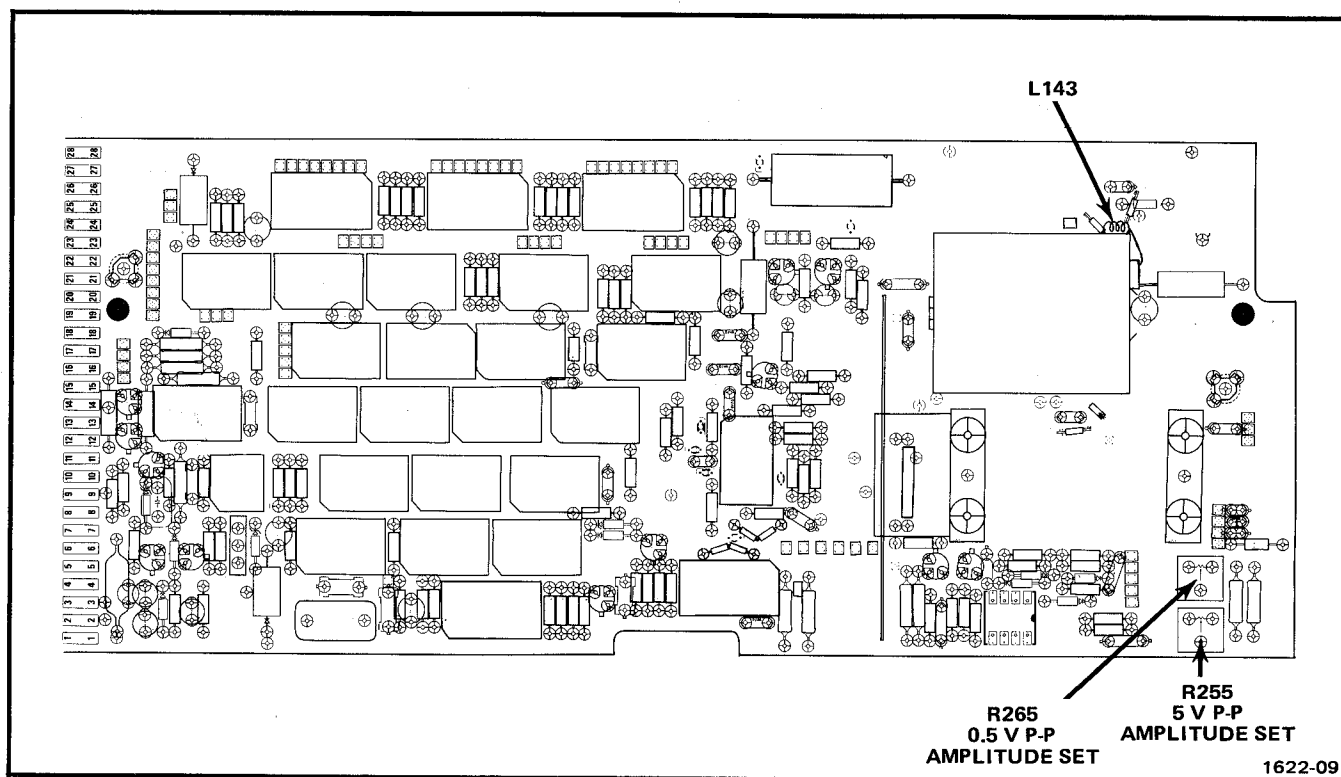
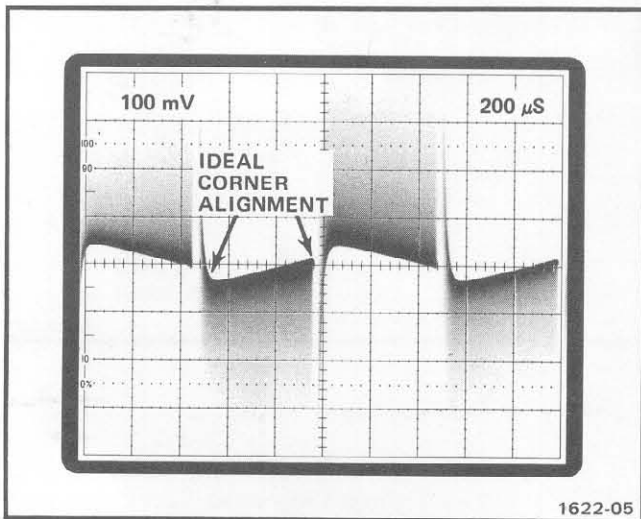

Fig. 3-2. Location of L143, 0.5 V P-P, and 5 V P-P Amplitude Set.
Fig. 3-3. Display of complex waveform (idealized) obtained when the amplitude set controls are properly adjusted at 0.05 MHz.
d. Set the time-base triggering controls for a stable display; a crt display similar to Fig. 3-3 is obtained.
e. Check—that the corners of the idealized waveform are aligned as illustrated in Fig. 3-3. Disregard waveform tilt.
f. Adjust—5.0 P-P Amplitude Set, R255, so the corners of the idealized waveform are aligned as illustrated in Fig. 3-3. See Fig. 3-2 for adjustment location.
i. Check—that the waveform is similar as illustrated in Fig. 3-3.
j. Adjust—0.5 V P-P Amplitude Set, R265, so the corners of the idealized waveform are aligned as illustrated in Fig. 3-3. See Fig. 3-2 for adjustment location.
c. Check—that the corners of the idealized waveform are not separated by more than 1.5 vertical divisions. See Fig. 3-3 for waveform illustration.
g. Check—that the corners of the idealized waveform are not separated by more than 1.5 vertical divisions. See Fig. 3-3 for waveform illustration.
e. Adjust—L143, (physically moving coil), to meet the suppression requirement as given in part d of this step. See Fig. 3-2 for adjustment location.